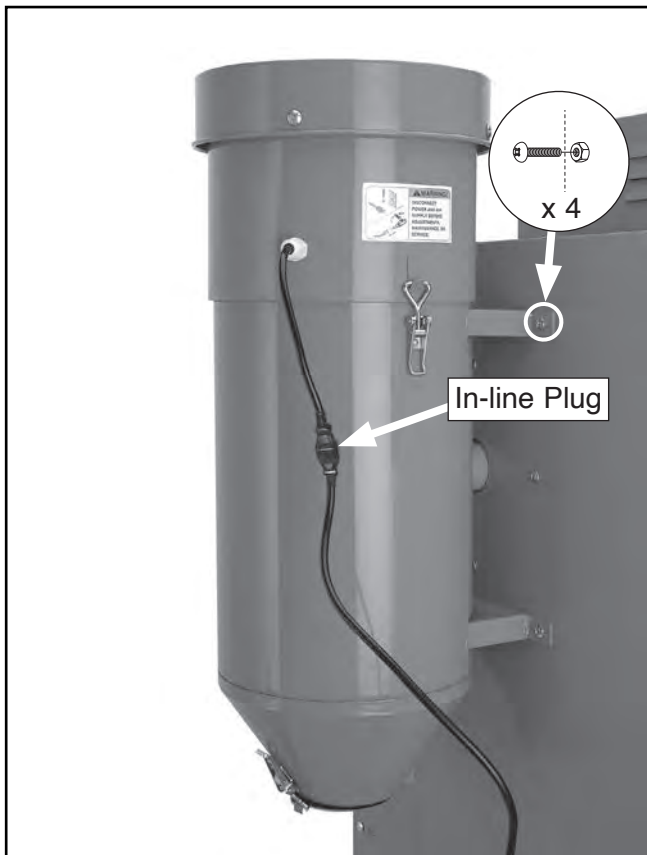

Figure 11. Dust collector.
- Using (4) M6-1 x 12 Phillips head screws and flange nuts, fasten dust collector to rear of cabinet, so suction port protrudes through hole cut into the back of cabinet (see **Figure 11**).
- Plug dust collector into in-line power supply plug protruding from LED light assembly (see **Figure 11**).
- Unlatch dust collector motor (see **Figure 11**), lift dust collector out of canister, and set it aside.